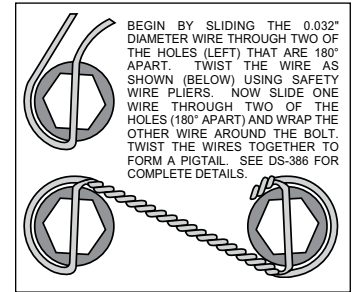
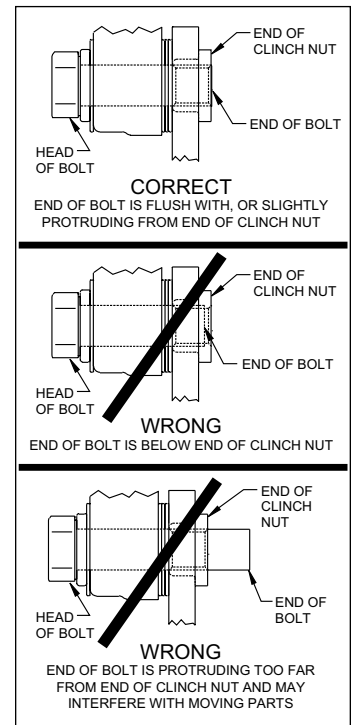

Figure 4. Safety Wire Diagram
Figure 5. Clinch Nut Engagement Diagram
CAUTION: All mounting bolts must fully engage clinch nuts. Be sure to check that all bolts are either flush or protruding through flanged side of clinch nut after shimming, Figure 5.
•With the slot pointing upward and the mounting ears pointing towards the rear of the vehicle, install the caliper mounting bracket (1) to the housing flange using user supplied bolts and nuts. Hex nuts that retain the bracket (1) should be on the wheel side of the bracket. Apply red *Loctite*® 271 to the bolt threads and torque to required specifications. **NOTE:** The original Wilwood caliper bracket included in this kit acts as the bearing retainer. If the original bearing retaining plates are still on the axle, they will either need to be: (A) removed as they are not necessary to retain the bearing, or (B) bolted on after the bracket is installed against the housing flange and bearing, if there is sufficient space to allow it without interference. Make sure the heads of the caliper mounting bracket insert nuts are FACING OUTWARD TOWARDS THE WHEEL.
•The rotor (3) has two sides. A flat side and an inset side. Bolt hat (2) to flat side of rotor (3) using bolts (5). Apply red *Loctite*® 271 to the bolt threads (5) and torque to 25 ft-lb using a criss-cross pattern. Safety wire bolts using standard 0.032 inch diameter stainless steel safety wire as shown in Figure 4. Please refer to Wilwood's data sheet DS-386 (available at www.wilwood.com/Pdf/DataSheets/ds386.pdf) for complete safety wire installation instructions.
•Align the correct hole pattern in the hat (2) with the stud pattern on the axle flange. **NOTE:** Some OEM and after market axles come with stud sizes larger than 0.50" diameter. Verify stud size and have a qualified machine shop drill the hats to the correct size. Slide the hat/rotor assembly (2 and 3) over the wheel studs and against the axle flange face.
•**NOTE:** Please reference the caution statement at the beginning of the assembly instructions. Mount the caliper (6) over the rotor (3) and onto the caliper mounting bracket (1) using washers (7) and mounting bolts (8). View the rotor through the top opening of the caliper. The rotor should be aligned in the center of the caliper. If not, adjust the caliper by using 0.032 inch shims (9) by placing them between the caliper mounting bracket (1) and the caliper (6). Add as many shim washers (9) as necessary to achieve the correct alignment. **NOTE:** The end of the bolt must be flush with or slightly protruding from the head of the clinch nut. See Figure 5. Place spare shims (9) between washer and caliper mounting ear to achieve the proper mounting fastener configuration. Always use the same amount of shims on both the top and bottom caliper mounting bolts (8). Apply red *Loctite*® 271 to the mounting bolt threads (8), torque to 40 ft-lb. Caliper mount bolts may be safety wired for additional security.